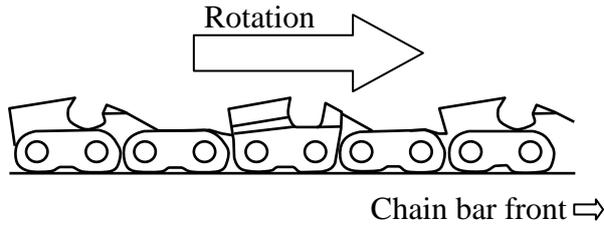

Figure 4
- Check to ensure that chain is running in the correct direction (Fig.4)
Check to ensure that chain is running in the correct direction (Fig.4)
This product is equipped with a 2-stroke engine which requires 2-stroke lubricating oil to be pre-mixed with petrol. Use only genuine Lawn Star 2-stroke engine oil (Part No. 90-20000) and use lead-free petrol (Octane 95). Mix both thoroughly (as per fuel-mix ratio) in a separate container. Always prepare the fuel-mixture and refuel the trimmer outside in a well ventilated environment (Fig.4). Do not smoke! Do not use marine or automotive 2-stroke oil.